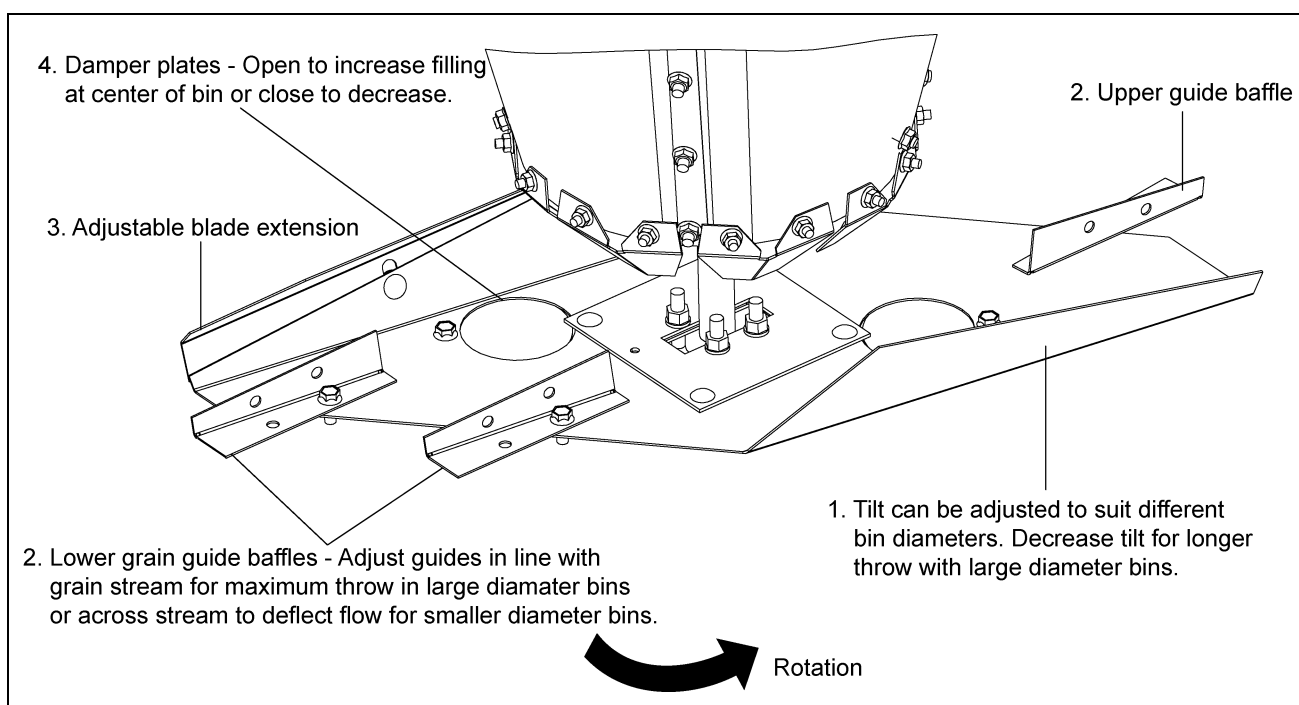

Figure 5B Four (4) Features for Adjusting the Grain Flow Pattern
2. Spreader diverters (grain guide baffles) are used to increase or decrease grain flow resistance over the spreader blade. With the diverters straight, the grain will travel farther. Angled grain diverters shorten the throwing distance. (See Figure 5B.)